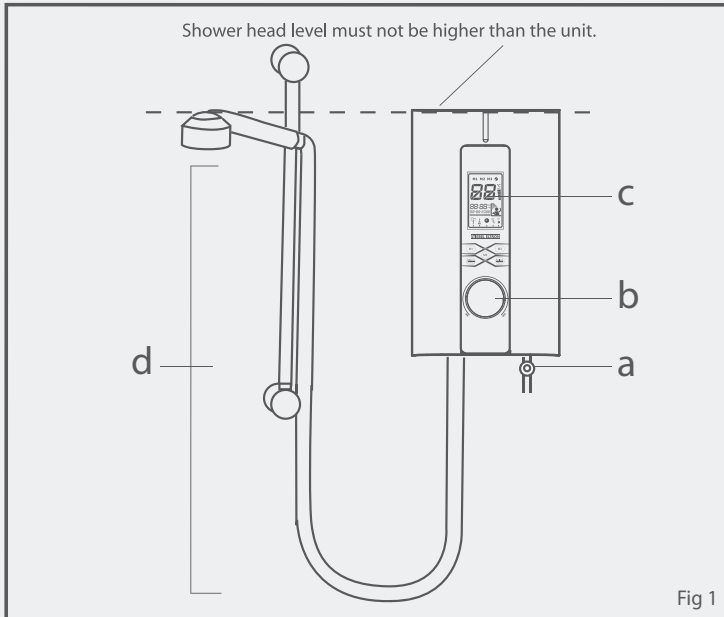

Fig 1
1.2 The essentials - in brief (fig 1)